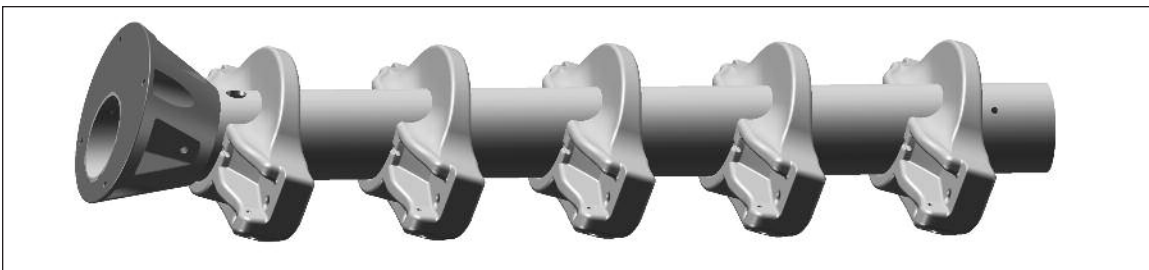

Fig. 1
Utilizing hardware kit XS-101-SS, attach the step foot pedestal to the step assembly using (2) 3/8" x 2" bolts and (1) 3/8" x 2.5" bolt. The longer bolt location is just below the water supply hose hole located at the bottom of the ladder. (See Fig. 1) Place a flat washer over a 3/8" bolt; then push bolt through the pre-drilled holes in the PVC ladder and ladder foot, then place flat washer then 3/8" nylon locking nut and tighten.